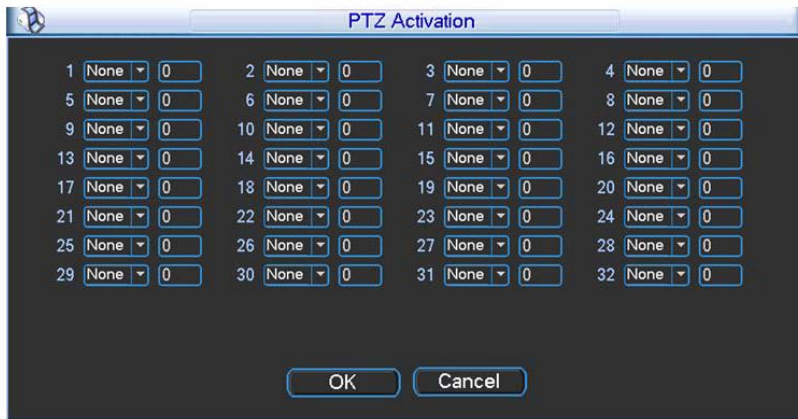

Figure 4-24
- PTZ activation: Here you can set PTZ movement when alarm occurs. Such as go to preset, tour & pattern when there is an alarm. Click “select” button, you can see an interface is shown as in Figure 4-24.